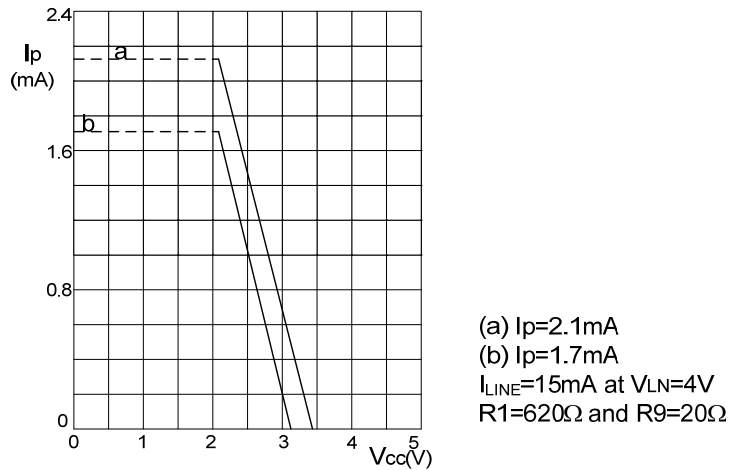
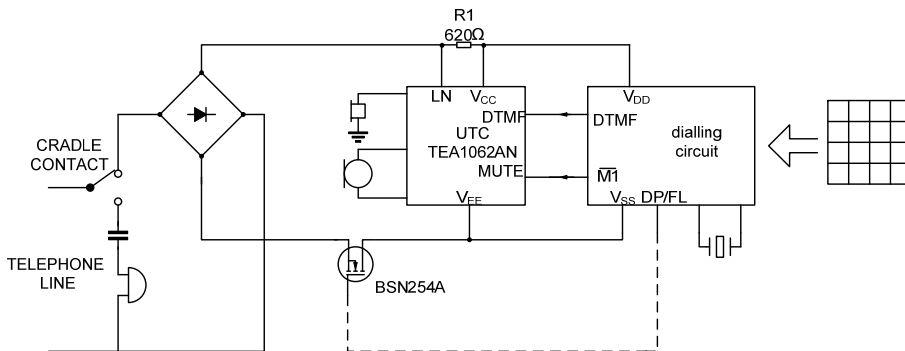

Fig.9 Typical current  $I_p$  available from  $V_{cc}$  peripheral circuitry with  $V_{cc} \geq 2.2V$ .
Fig.16 Typical applications of the UTC TEA1062N/TEA1062AN (simplified)
At line currents below 9mA the internal reference voltage is automatically adjusted to a lower value(typically 1.6V at 1mA) This means that more sets can be operated in parallel with DC line voltages (excluding the polarity guard) down to an absolute minimum voltage of 1.6V. With line currents below 9mA the circuit has limited sending and receiving levels. The internal reference voltage can be adjusted by means of an external resistor(RVA). This resistor when connected between LN and REG will decrease the internal reference voltage and when connected between REG and SLPE will increase the internal reference voltage. Current(IP) available from VCC for peripheral circuits depends on the external components used. Fig.9 shows this current for VCC > 2.2V. If MUTE of TEA1062N is LOW (TEA1062AN is HIGH) when the receiving amplifier is driven the available current is further reduced. Current availability can be increased by connecting the supply IC(1081) in parallel with R1, as shown in Fig.16, or, by increasing the DC line voltage by means of an external resistor(RVA) connected between REG and SLPE.